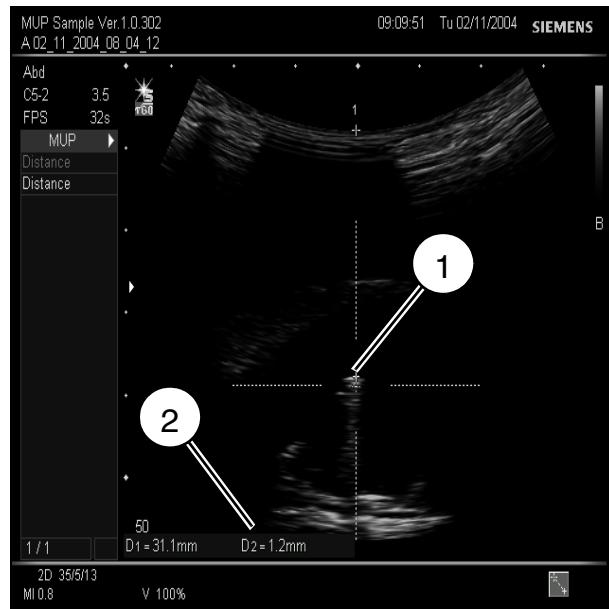

Fig. 9
- Move the trackball until the cross lies in the center of the isocenter cross (1/Fig. 9).
- The displayed value for "D2" (2/Fig. 9) must be between 1 and 5 mm. This has validity only for the default values, see instructions SPL1-130.038.01...